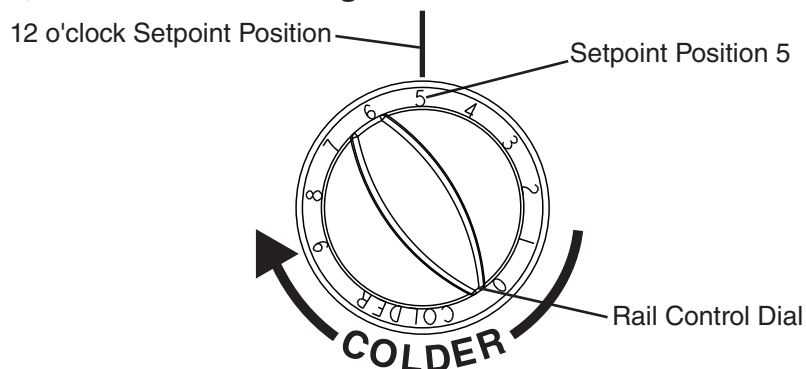

Fig. 44 RAIL CONTROL
- a) **Rail Control Dial Adjustment.** To adjust day mode temperature setpoint, rotate the control knob counterclockwise for a warmer setting and clockwise for a colder setting. See Fig. 44. 1 is the warmest setting and 9 is the coldest setting. Note: There is a 2.25°F (1.25°C) difference between each number setting on the control knob. Night mode is a programmed temperature offset of 8°F (4.4°C) above the day mode rail control dial setting. **NOTICE! The rail control dial controls compressor operation. It does not control cabinet fan motor operation. For cabinet fan motor operation control see "II.C.2. Cabinet Temperature Control."**